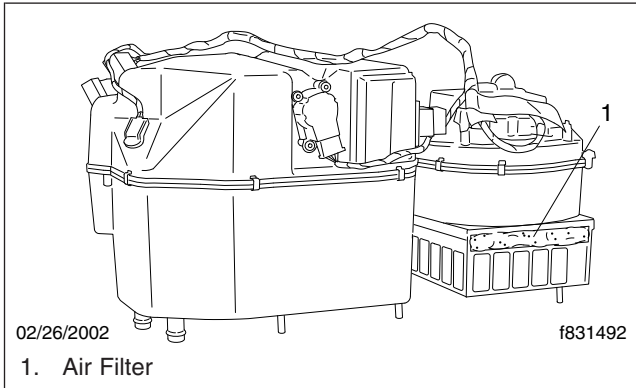

Fig. 8, Sleeper HVAC Assembly, Blend Air
3. Slide the air filter out of the sleeper HVAC assembly. See **Fig. 8**.